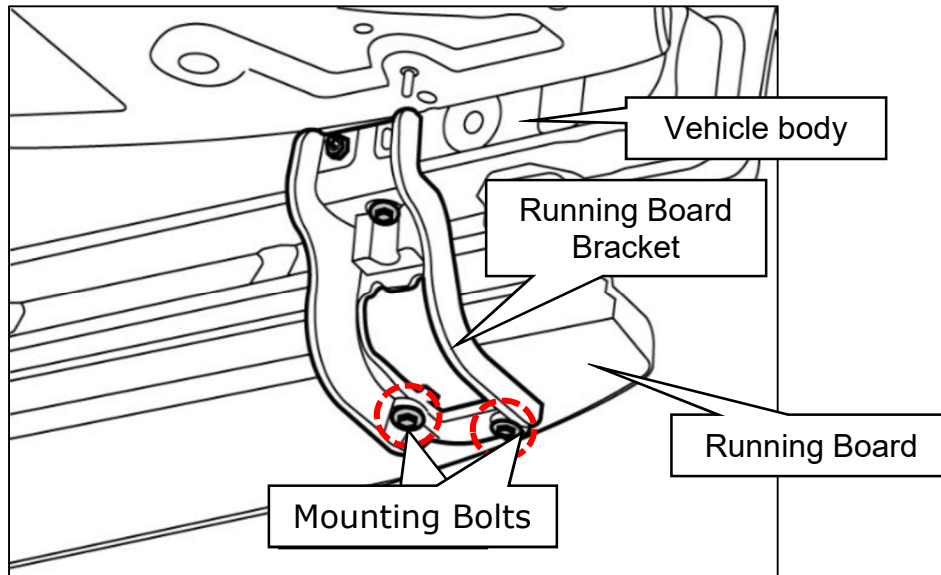

Figure 1
1. Locate the running board mounting bolts. (Figure 1)